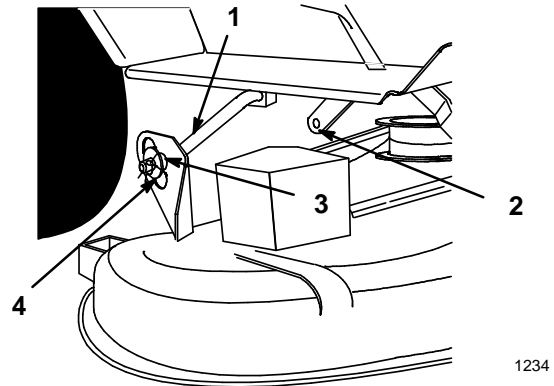

Figure 16
5. Remove 2-9/16" hairpin cotter and 3/8" washer from rear lift link and remove from attachment lift (Fig. 16).
6. Remove (2) 3-3/8" hairpin cotters and (2) 3/4" washers from rear lift arms (Fig. 16).
7. Slide deck right, off rear lift arms (Fig. 16).